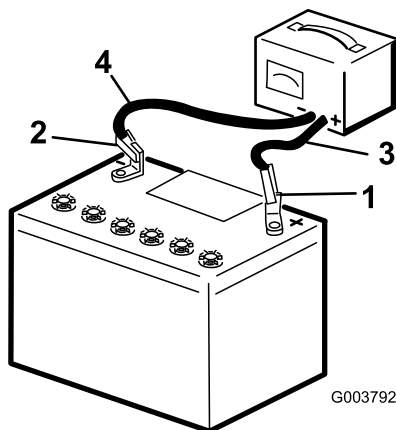

Figure 44
3. Connect the positive lead of the battery charger to the positive battery post (Figure 44).
4. Connect the negative lead of the battery charger to the negative-battery post (Figure 44).
6. When the battery is fully charged, unplug the charger from the electrical source, then disconnect the charger leads from the battery posts (Figure 44).